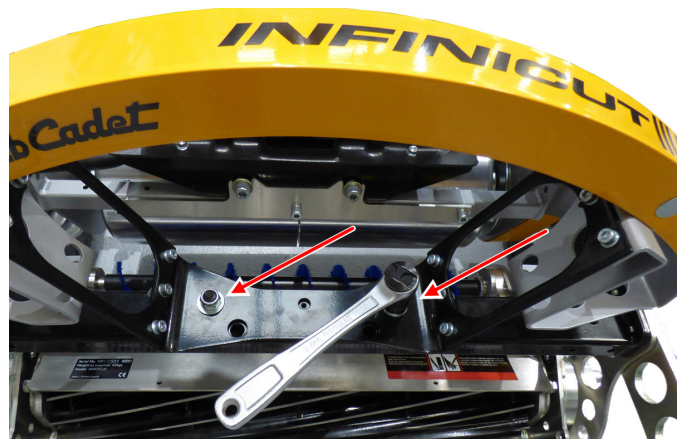

Figure 33
- Loosen and remove nuts and washers from securing bolts fixing floating head to traction unit. See Figure 33.